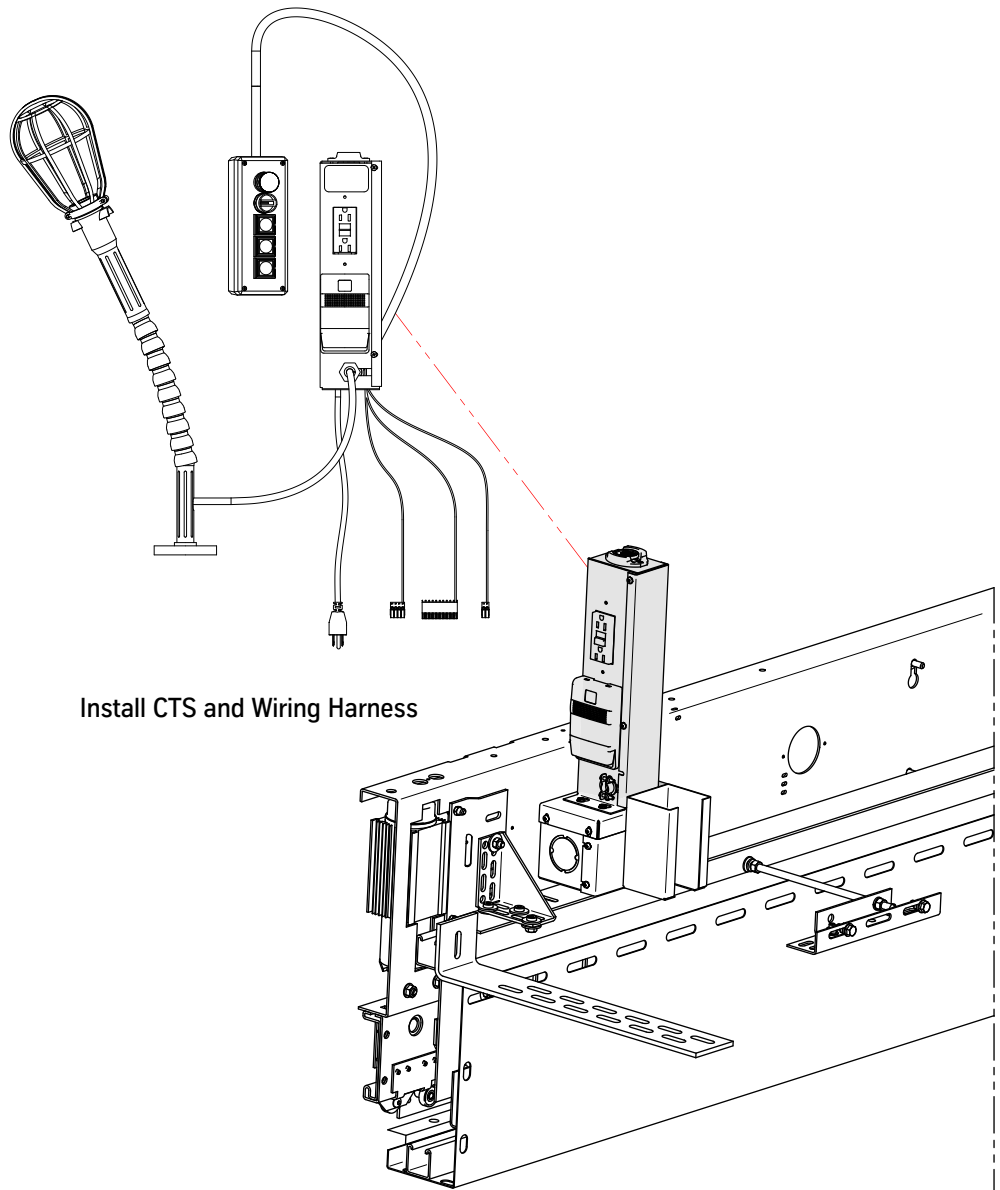

Figure 30 - Door Operator, CTS, and Wiring Harness Installation
7. Install the door operator. See Figure 30.